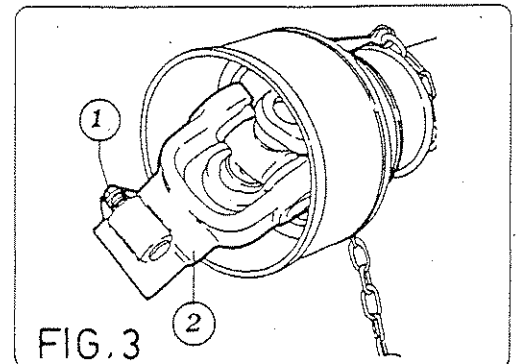

FIG.3
This is achieved by inserting the safety pins and bolts (1) (Fig.3.) in the special slots(2) on the power takeoff shafts on both the tractor and machine ends.